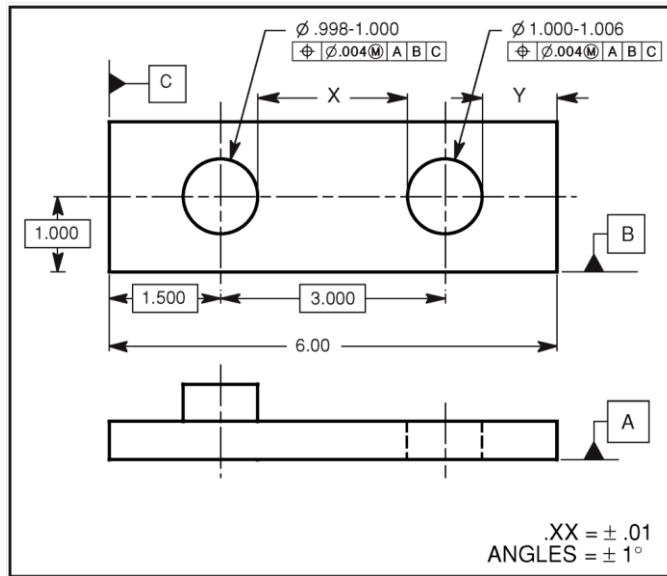

Figure 3
3. Read the drawing given in Figure 3 with the pin and the hole and write the descriptions for the feature control frames available in the figure.